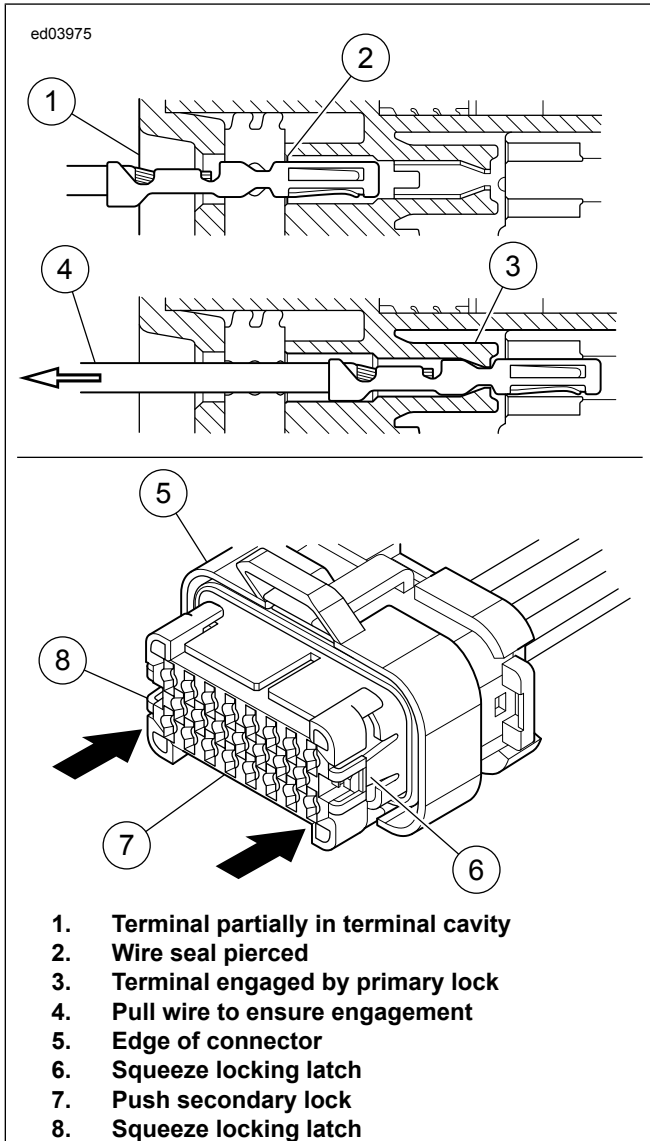

Figure B-41. Installing Terminal
3. See Figure B-41. From the wire size of the connector assembly, align the terminal with the applicable cavity, then insert the terminal until there is an audible or tactile click. Do not force the terminal. If the terminal is difficult to insert, check that the secondary lock is fully open.